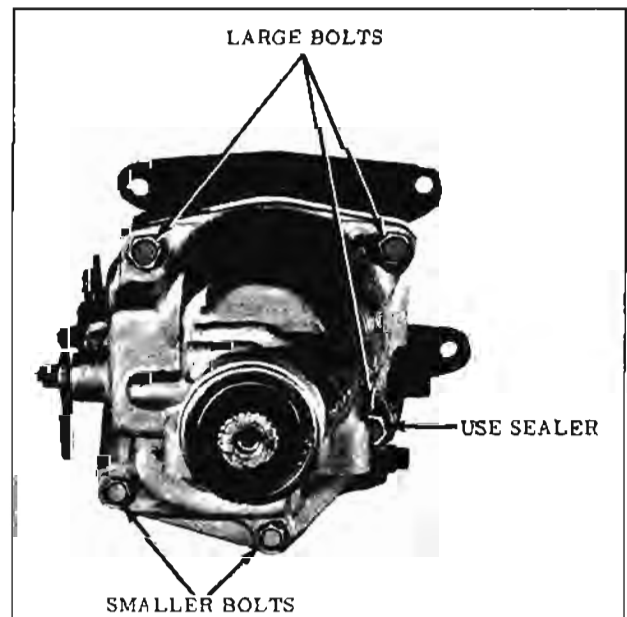

Fig. 11-254 Installing Extension Housing
9. Use a sealer such as P.O.B. #3 on one of the larger bolts (extension housing and bearing retainer to case) and install in the lower right side of the extension housing (in line with the filler plug). (Fig. 11-254)
10. Install the other two larger bolts and torque ALL three bolts 35-40 ft. lbs. (Fig. 11-254)
11. Install the two extension housing to bearing retainer bolts and torque 20-30 ft. lbs. (Fig. 11-254)